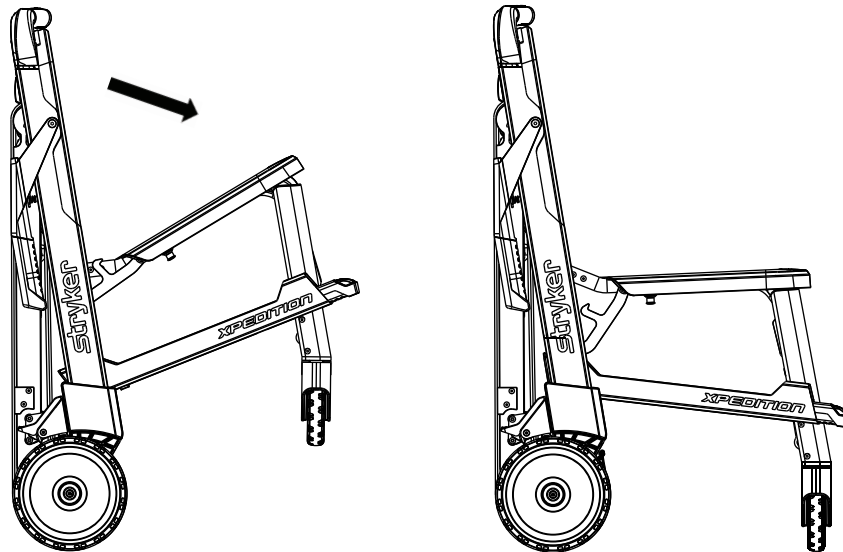

Figure 8 – Unfolding the chair
3. Pull the seat down (Figure 8).